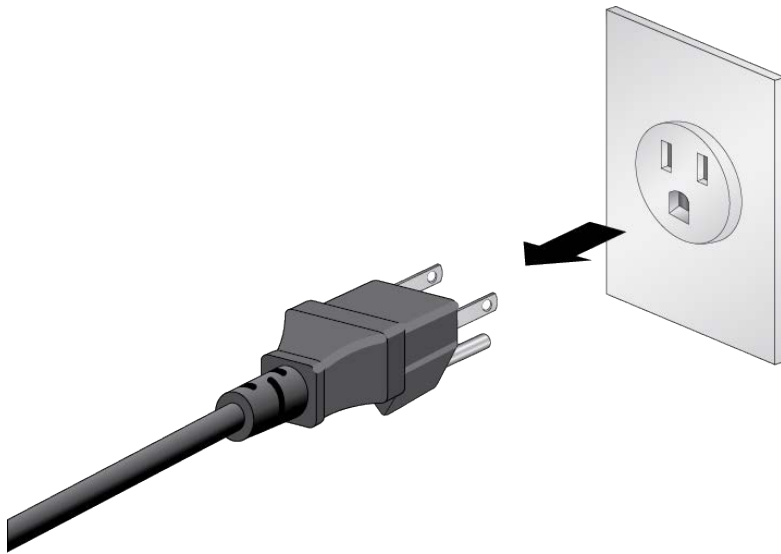

Figure 146. Disconnecting the AC Power Cord from the Power Source
1. Disconnect the AC power cord for the power supply from the AC power source. Refer to Figure 146.